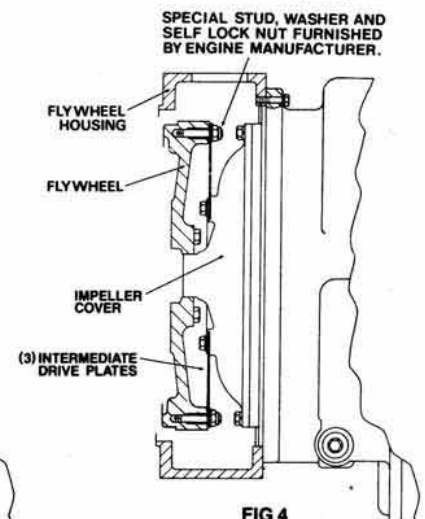

FIG 4
5. Locate transmission on flywheel housing aligning drive plate to flywheel and transmission to flywheel housing. **NOTE:** Fig. 4 installation, align drive plate holes with flywheel studs.
7. Install drive plate attaching screw and washer. Snug screw but **do not tighten**. **NOTE:** Fig. 4 installation, install drive plate attaching washers and nuts. Tighten each nut 28 to 30 ft. lbs. torque [38,0 - 40,6 N.m]. Some engine flywheel housings have a hole located on the flywheel housing circumference in line with the drive plate screw access hole. A screwdriver or pry bar used to hold the drive plate against the flywheel will facilitate installation of the drive plate screws. Rotate the engine flywheel and install the remaining seven (7) flywheel to drive plate attaching screws. Snug screws but do not tighten. After all eight (8) screws are installed torque each one 25 to 30 ft. lbs. torque [33,9 - 40,6 N.m]. This will require torquing each screw and rotating the engine flywheel until the full amount of eight (8) screws have been tightened.
* Does not apply to units having 3 intermediate drive plates. See Fig. 4.